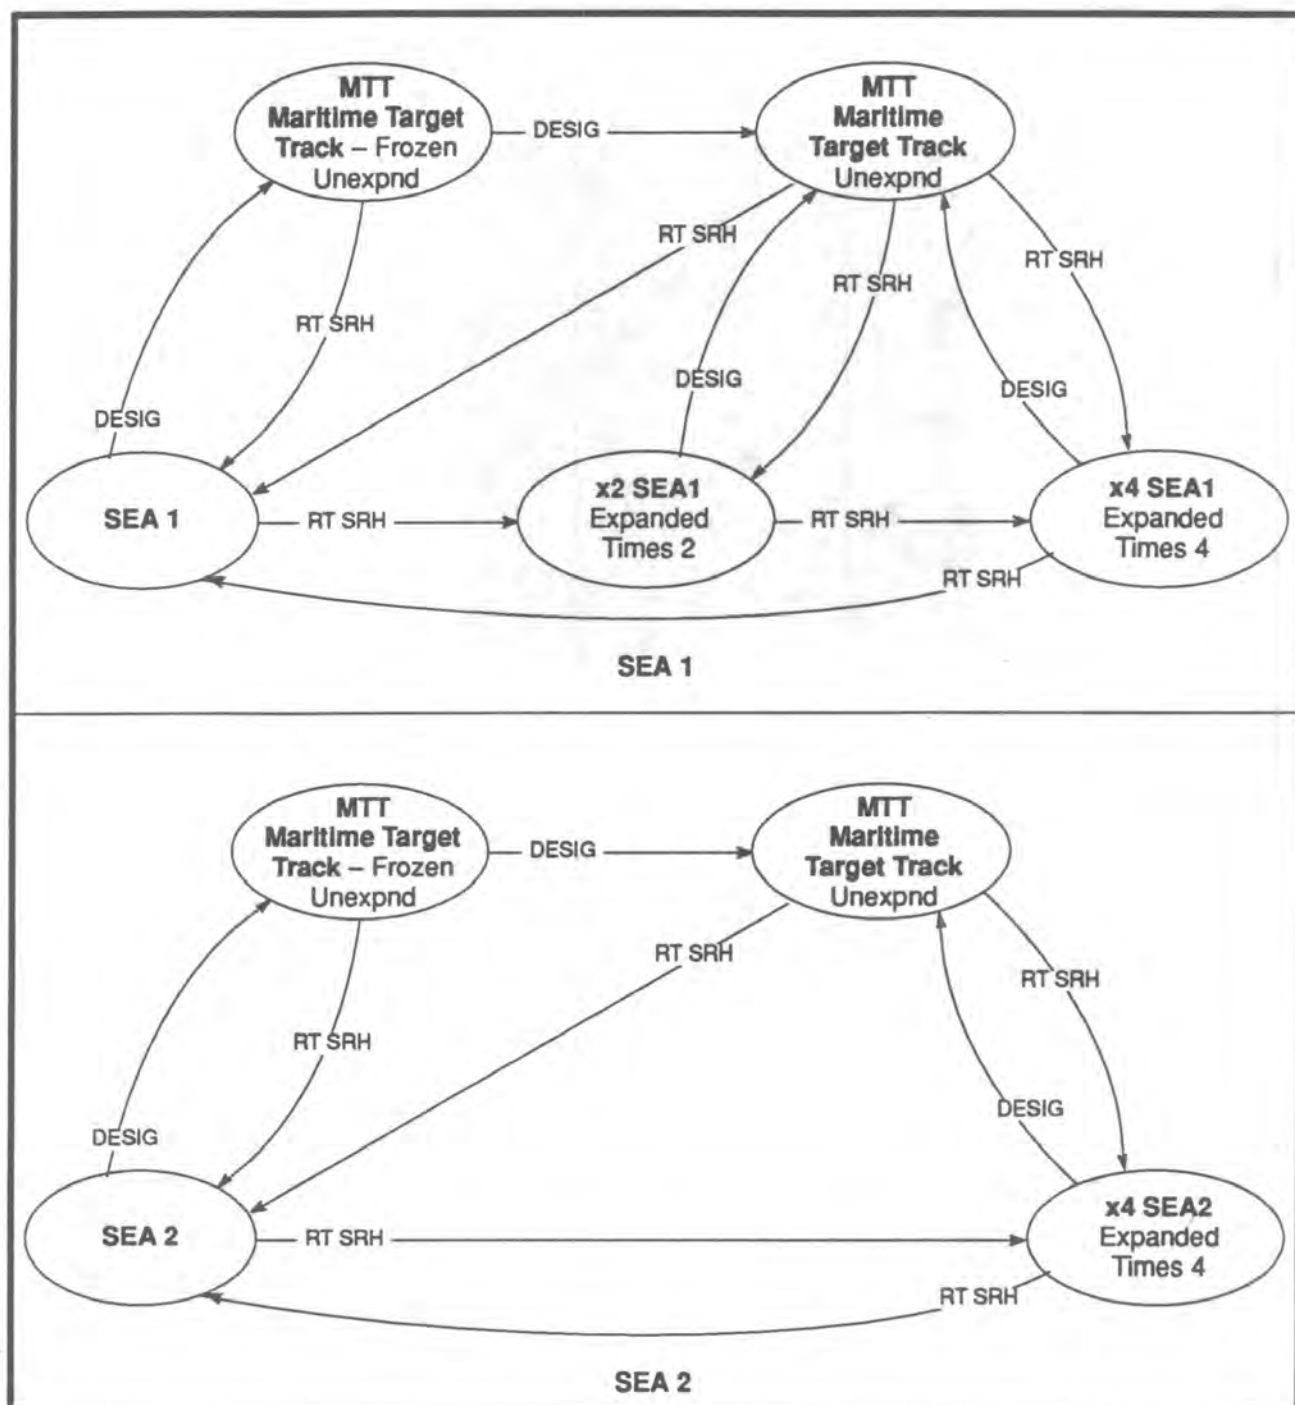

Figure 7-34 SEA 1 & SEA 2 Submode Selection
7.245 The relationships between SEA 1, SEA 2 and MTT are shown in Figure 7-34.
7.246 The Maritime Target Track Mode (MTT) is designed to provide track type information on ship targets seen from either SEA 1 or SEA 2 modes. Acquisition of a SEA target is accomplished by designating a target under the cursor intersection. Exit from MTT back into the basic search mode is accomplished by pressing RT SRH. (See Figure 7-34).